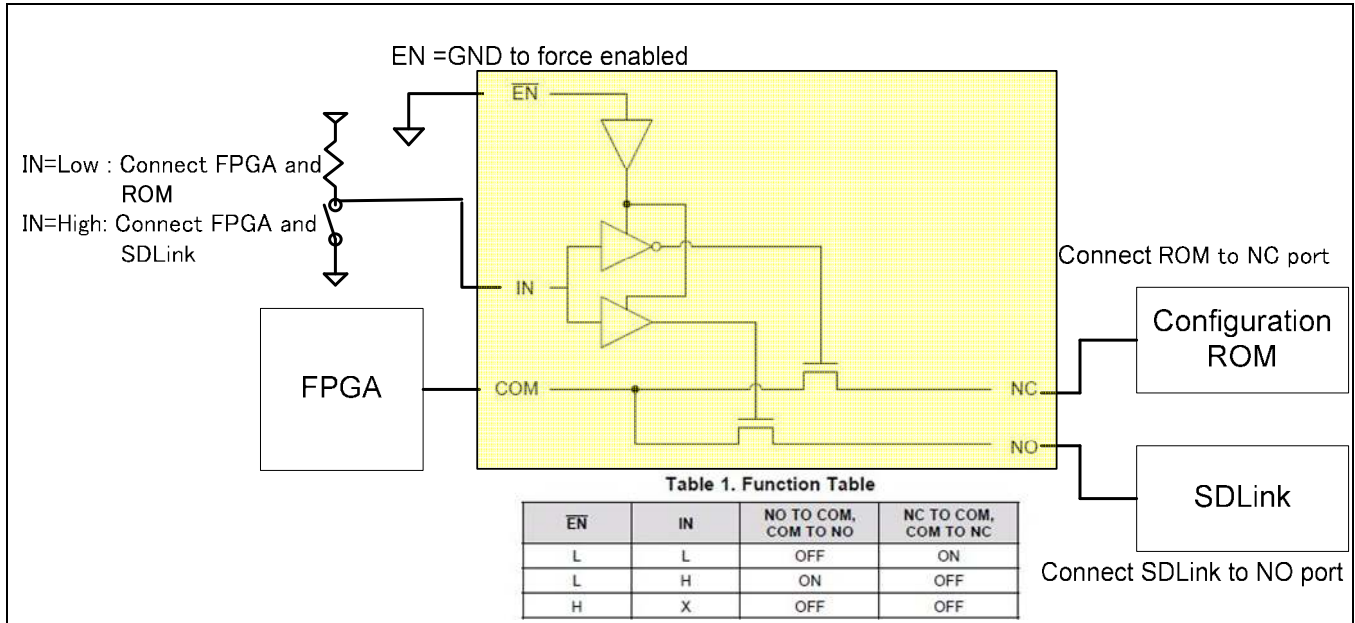

Figure2: Basic connection using TS3A5018
- Basic connection of each configuration signal is shown figure2 below.